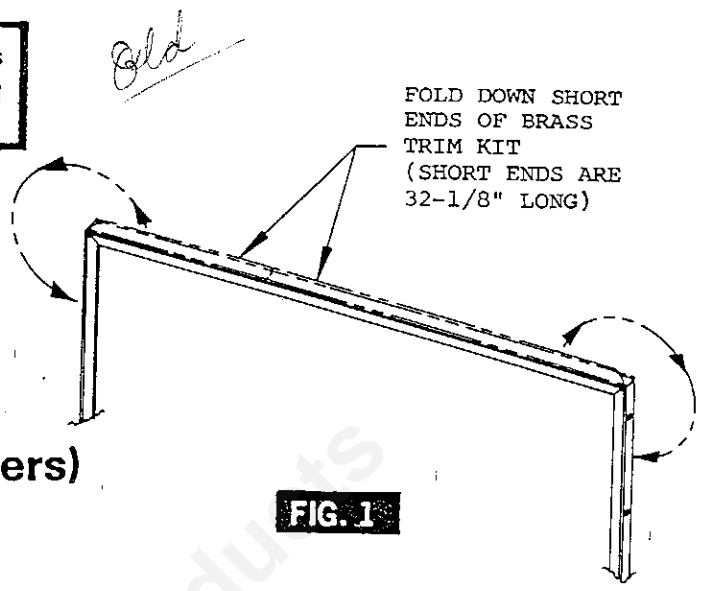

FIG. 1
2. Remove brass trim and parts from carton. Carefully take brass trim and fold short ends (32-1/8" long) down to make an upside down "U" (See Figure 1).